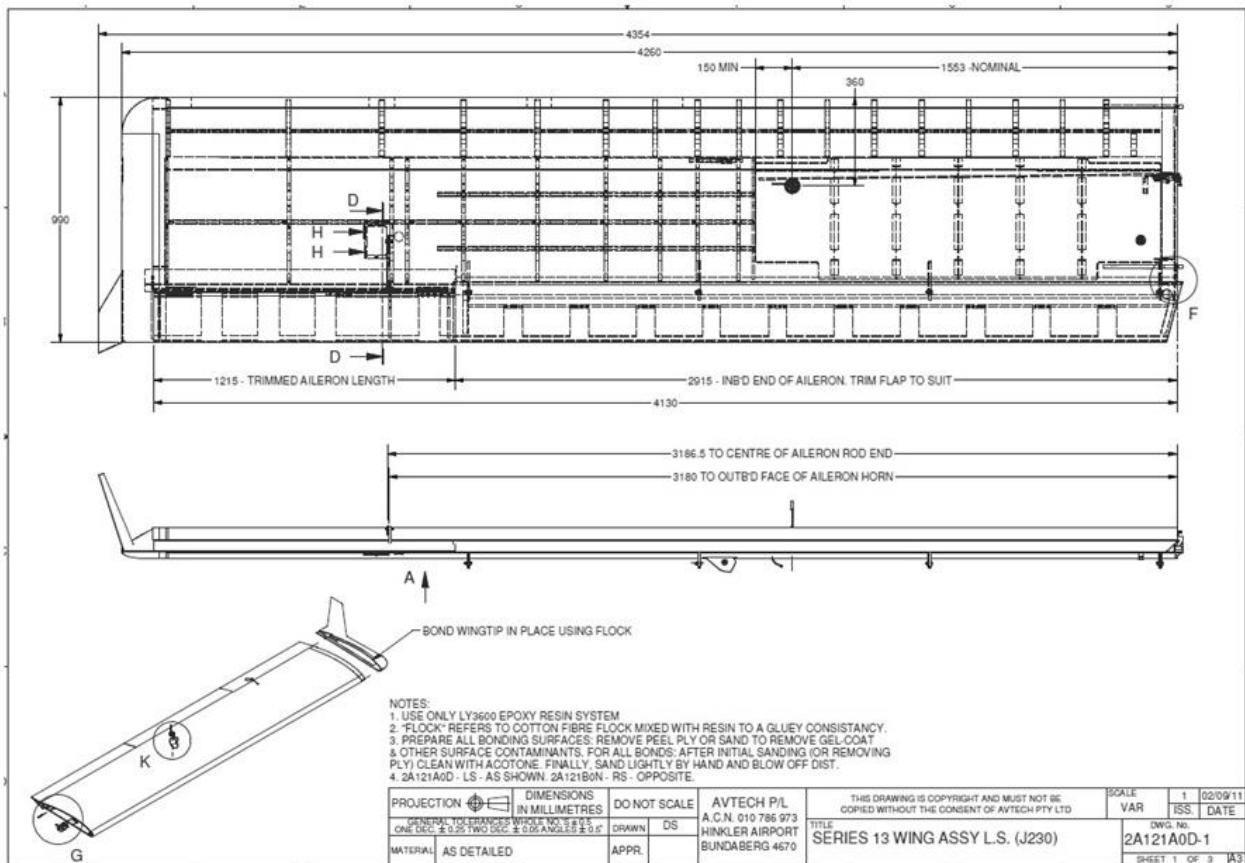
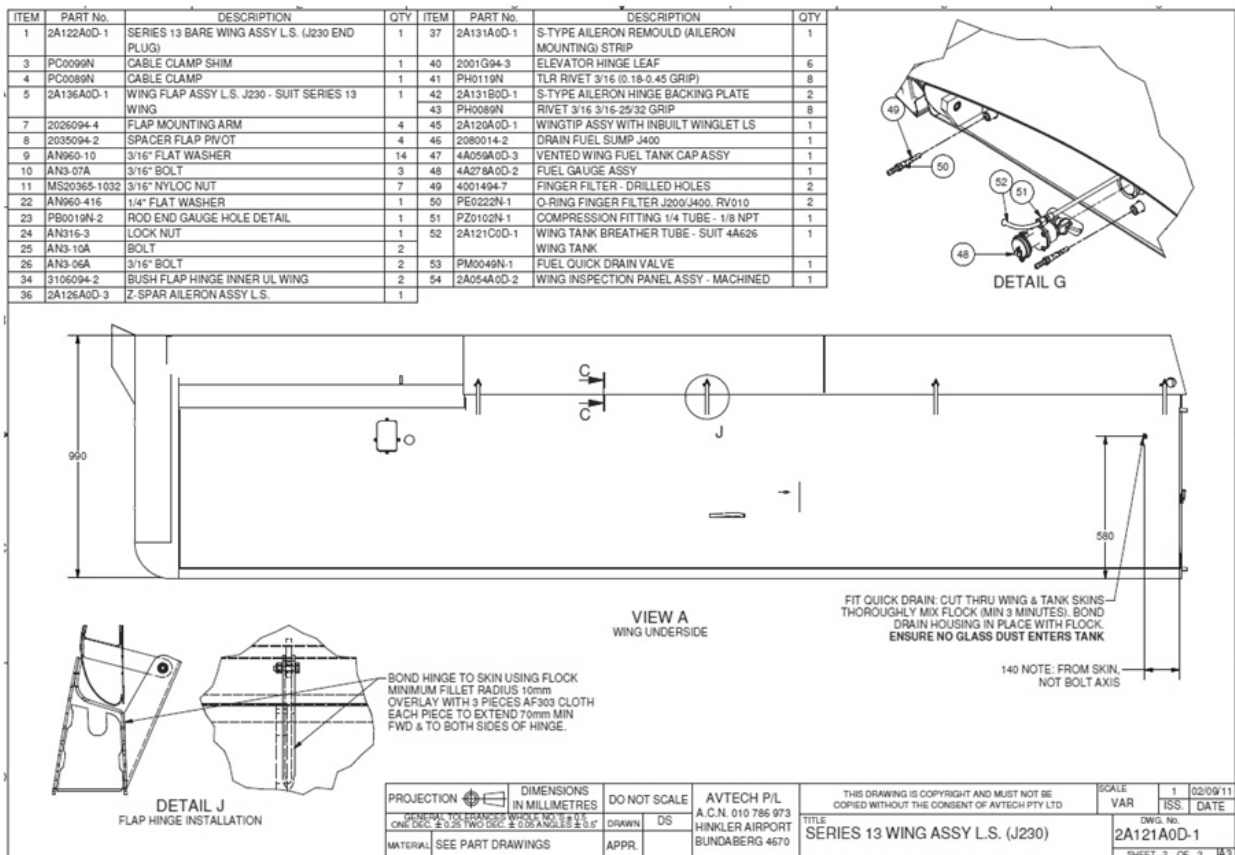
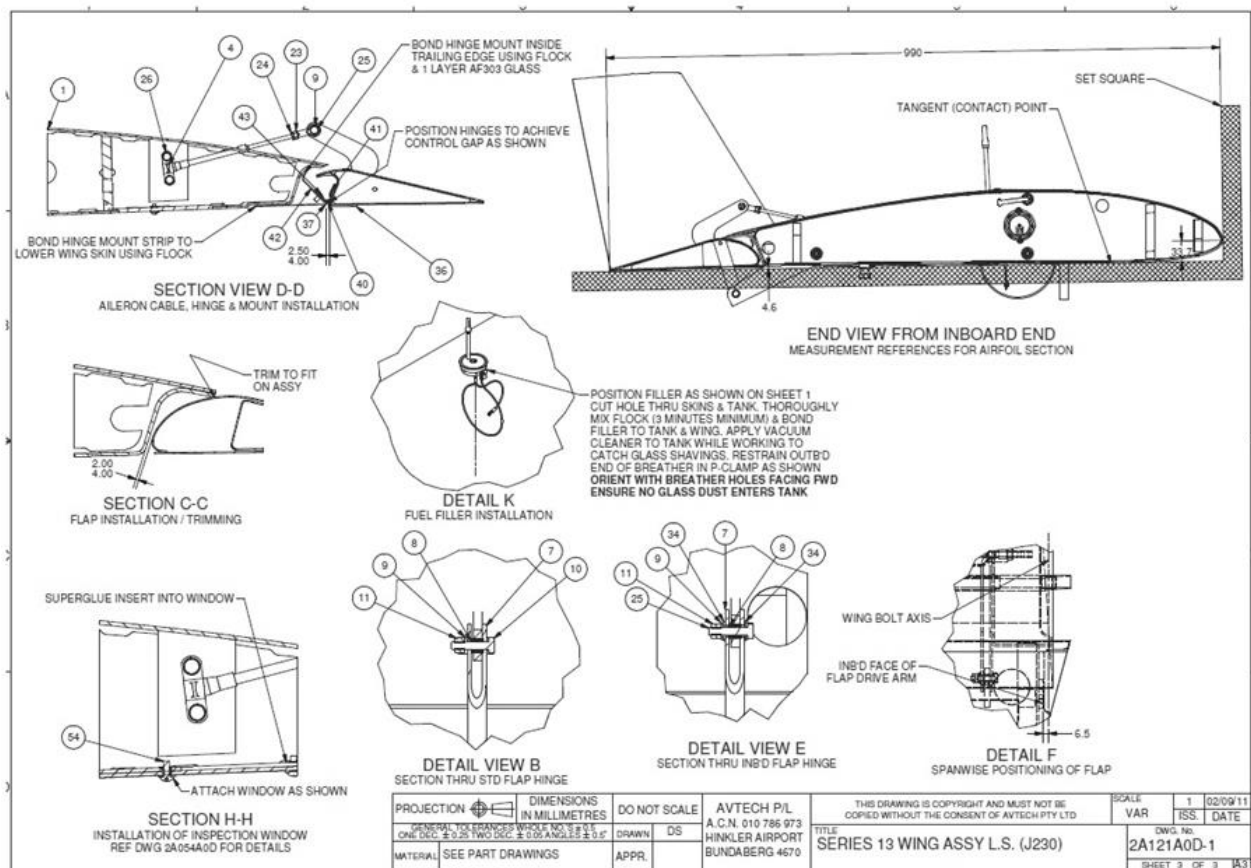

Figure 61 – J230 Wing Assembly Sheet 1, Ser 13 (J230/J430)
Figure 62 – J230 Wing Assembly Sheet 2, Ser 13 (J230/J430)
Figure 63 – J230 Wing Assembly Sheet 3, Ser 13 (J230/J430)
- The installation of the control surfaces, control cables etc for the J230 wing uses many of the same parts, materials and methods as the J160 detailed above. Refer to Figure 61, Figure 62 and Figure 63 for details.